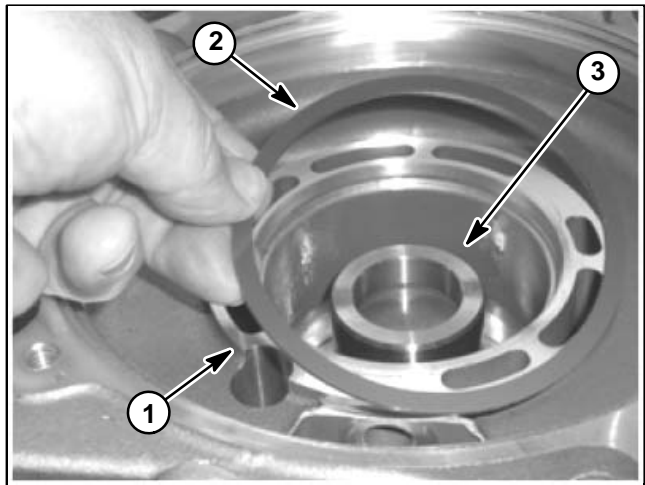

Figure 24
7. Place the gear shim to the gear case and then install the ring gear into the gear case (Fig. 24).